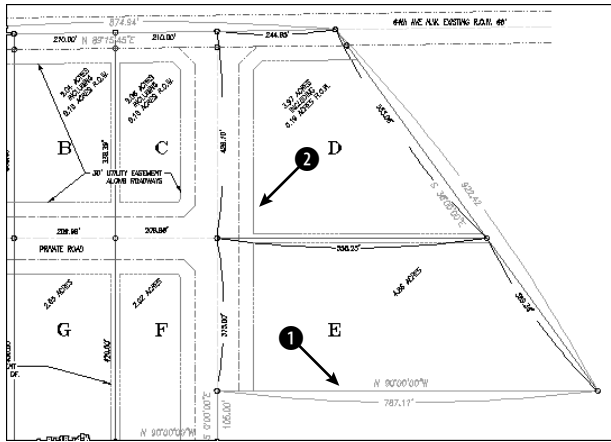

Figure 12-13: The site plan zoomed in to parcels D and E.
2. If you didn't do the previous exercise, use `ZOOM Window` to zoom in to the parcels labeled D and E, as shown in Figure 12-13.
4. Choose `Draw ⇨ Point ⇨ Divide`. At the `Select object to divide:` prompt, choose **1** in Figure 12-13. At the `Enter the number of segments or [Block]:` prompt, type `3 ↵`. The command places two points along the line, dividing it into three segments. (If you want, draw lines from the points perpendicular to the opposite side of the parcel to divide it into three parcels.)
5. Choose `Draw ⇨ Point ⇨ Measure`. At the `Select object to measure:` prompt, choose **2** in Figure 12-13. At the `Specify length of segment or [Block]:` prompt, type `120 ↵` (10 feet). The command places two points along the line.